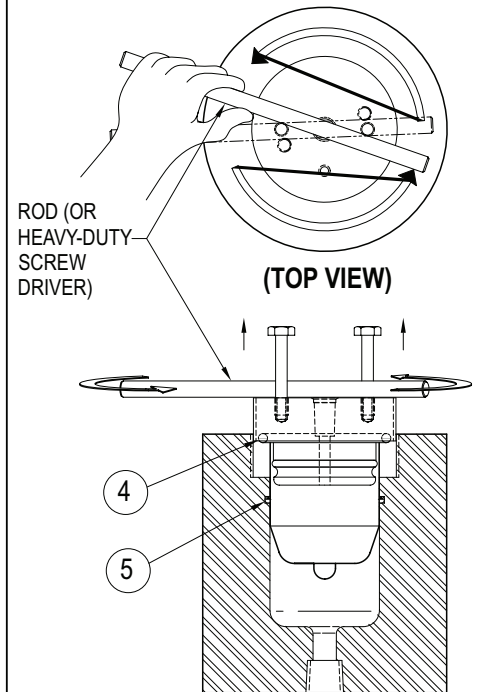

FIGURE 4
5. Insert rod or heavy duty screwdriver with long shank between lid removal bolts and remove dampener cap by turning **counter clockwise** (see FIGURE 4).